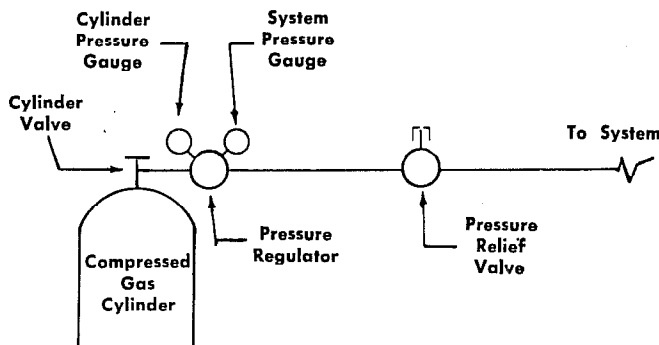

Figure 158
Figure 158 illustrates the gauges and valves that must be installed in the supply line for proper safety of personnel and equipment when testing with high pressure gases.
1. Disconnect the compressor and remove the low pressure components (expansion valves, capillary tubes, controls, etc.) from the system. Install suitable jumpers in place of expansion valves, capillary tubes, etc. and cap fittings from which controls were disconnected. A pressure relief device preset at 175 psig must be installed in the supply line. (See Figure 158).